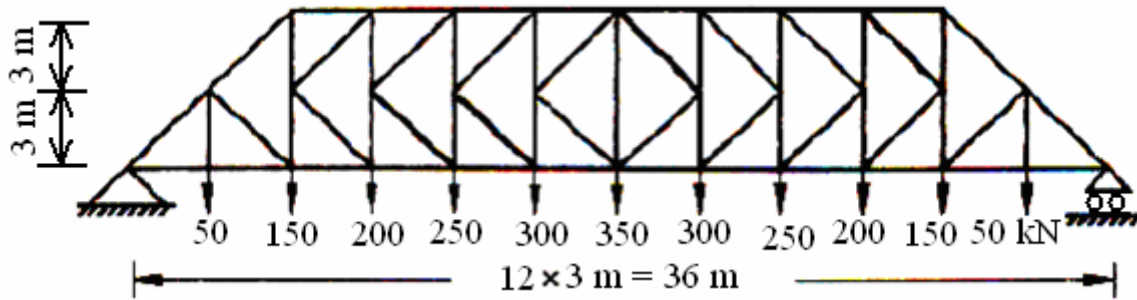

Figure 4
5. Analyze the truss indicated in the Figure 4 by method of joints. [15]